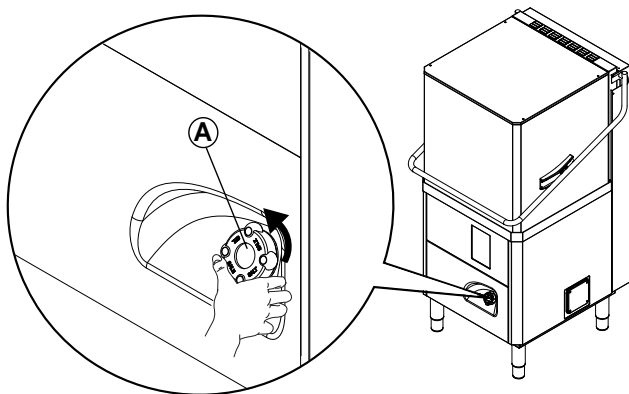

Fig. 18
- Unscrew cap "A" (Fig. 18) of the salt container, turning it anticlockwise.